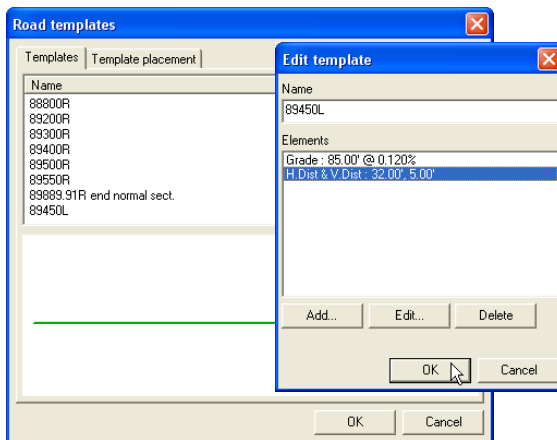

Figure 6-30. Add Template to List
6. Review the elements as needed and click **OK** to add the template to the template list (Figure 6-30).